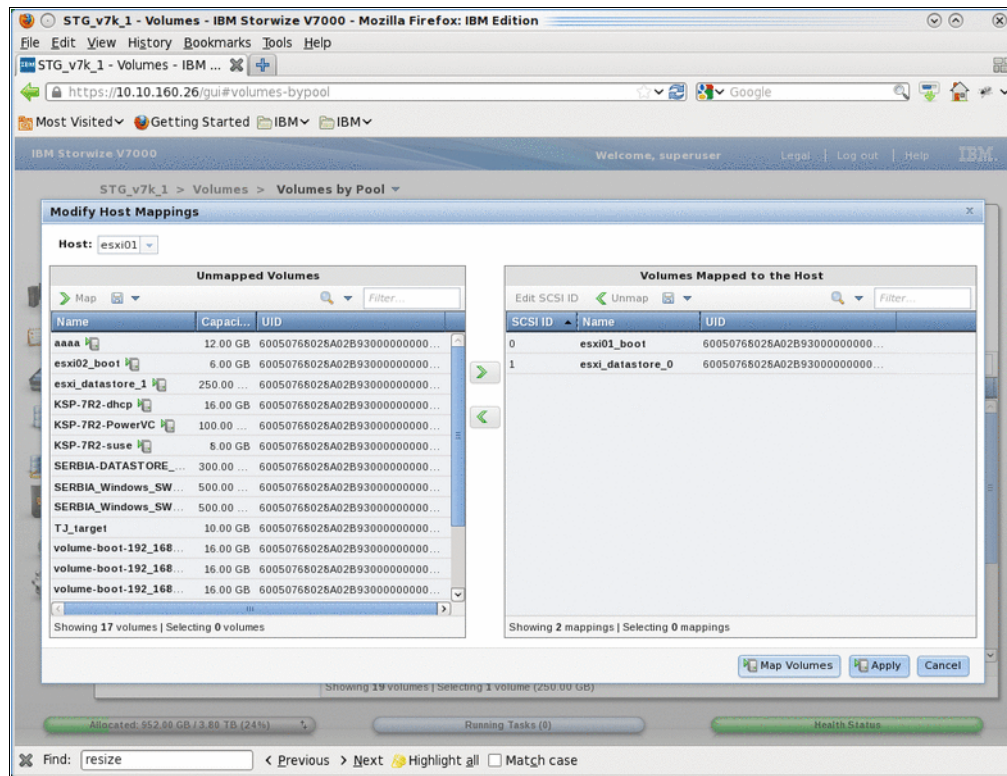

Figure 16-32 Volume unmapped from the esxi01 host
- In the right pane, select **esxi_datastore_1** and click **Unmap**, as shown in Figure 16-32 on page 590.